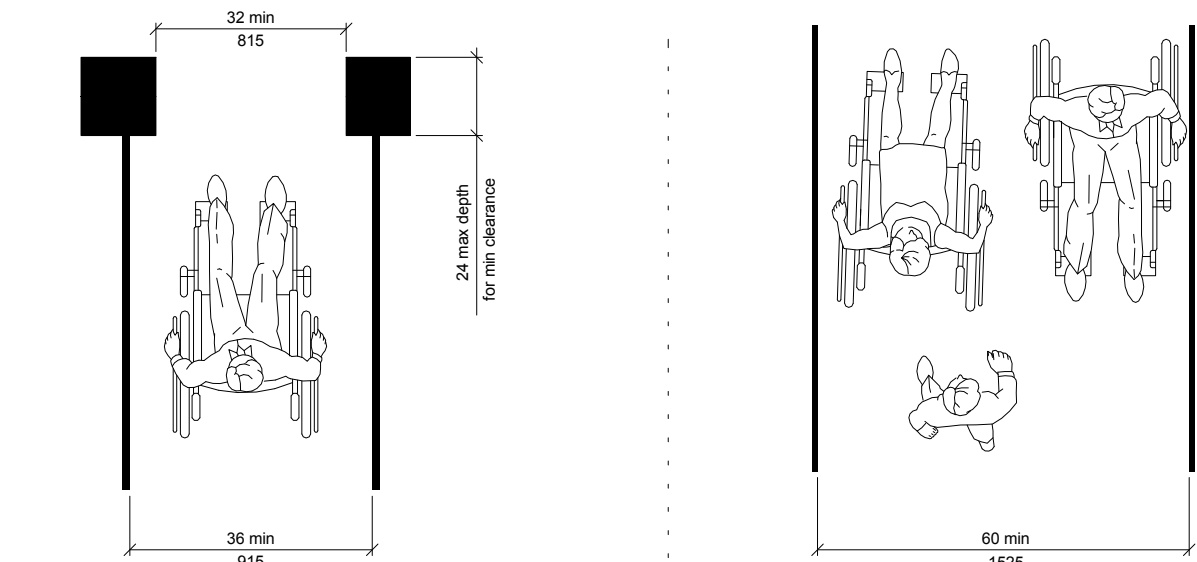

Fig. 1
**4.2.1\* Wheelchair Passage Width.** The minimum clear width for single wheelchair (48 in (1220 mm) and 36 in (915 mm) continuously (see fig. 1 and 2a)).